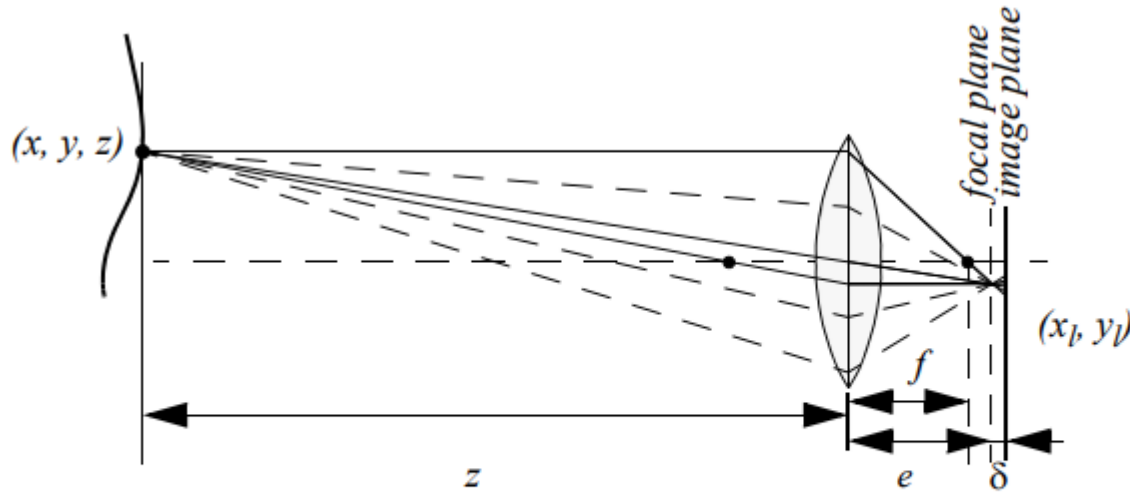

Figure 4.28
- However, when the image plane is not at e (as is depicted in figure 4.28), then the light from the object voxel will be cast on the image plane as a blur circle (or circle of confusion).